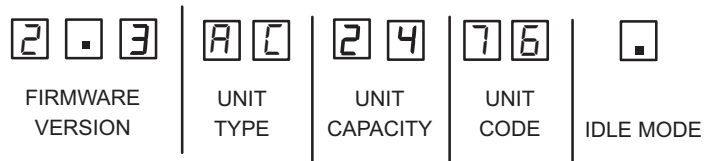

FIGURE 18. Outdoor Control 7-Segment Unit Status Displays
If the single-character display shows three (3) horizontal lines, the unit selection code needs to be programmed. Press and hold the button until the *P U* menu option is displayed, release button. The single-character display displays the selected mode per example in figure 18 on page 47. When the desired unit selection code appears, press and hold the button until it stops flashing, then release.